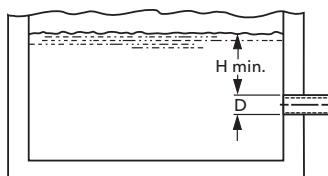

Figure 8
- Ensure that the size and minimum submergence over suction inlet is sufficient to prevent air from entering pump through a suction vortex. See Figures 8 through 11.